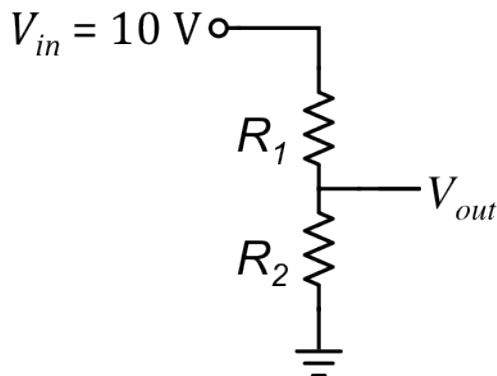

Figure 2 - Voltage divider circuit.
In this portion of the lab, you will construct the circuit shown in Figure 2 using a solderless breadboard. You will then measure V_{out} as a function of the resistance R_I . Copy the circuit diagram and table into your lab notebook.
1. Sketch the circuit shown in Figure 2 in your lab notebook.
5. Insert this resistor into breadboard as R_1 to form the circuit shown in Figure 2. Use the breadboard's built-in power supply to provide $V_{in} = 10\text{ V}$ to the circuit. Make sure the other end of the circuit is properly connected to ground.
11. Make a plot of the *measured* output voltage V_{out} as a function of the *measured* resistance R_1 with the theoretical curve given by Eq. (1). (Make the *theoretical* curve smooth by using 'linspace()' for the variable R_1 , and the measured value for the constant R_2 .)